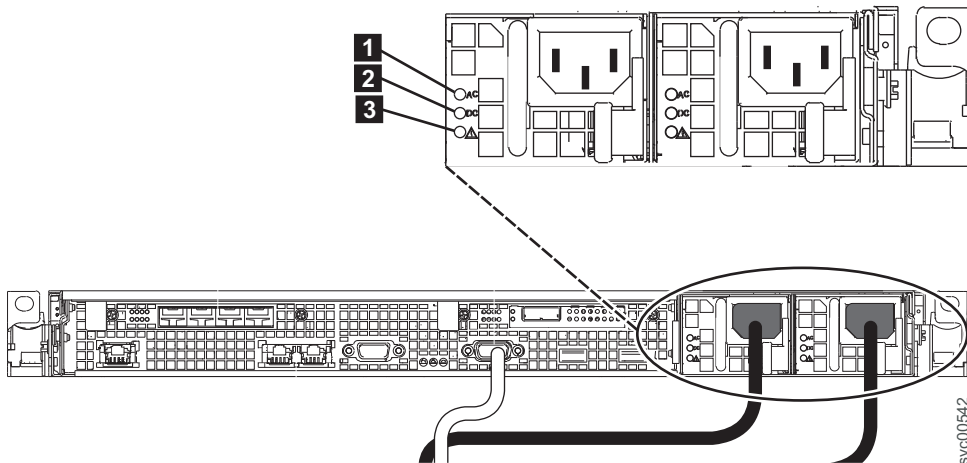

Figure 205. SAN Volume Controller 2145-CG8 or 2145-CF8 AC, DC, and power-error LEDs
5. To the left of the power-cord connector on each power supply, verify that the AC power LED (**1**) and the DC power LED (**2**) are lit, as shown in Figure 205 on page 248.